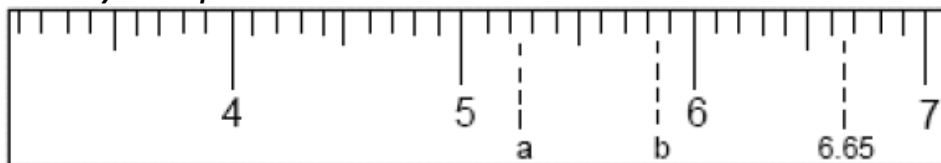

Figure 1. A *portion* of a metric ruler (the centimeter scale has been enlarged for ease in reading)
Distances are normally measured with a ruler. The limit of accuracy of a ruler is indicated by how "precisely" you can read the length on that ruler's scale—that is, how well you can estimate between the marks. On the portion of the ruler shown in Figure 1, the distance between the closest marks is 0.1 cm. The dotted line to the right of the meter stick is at a length of 6.65 cm. The last decimal place, the hundredth's place, in the measurement is **estimated**. Here is the key for determining the precision of most measuring devices:
On the ruler in figure 1, the closest marks are 0.1 cm apart, so you can estimate to the hundredths place, 0.01 cm. However, when looking at a metric ruler in the real world, the smallest marks (i.e. millimeter marks, mm) are so close that it is all we can do just to determine that the dotted line is between two of them—about half way. Therefore, your best estimate of the position of the dotted line is 6.65 centimeters. We can say that the measuring instrument is readable to ± 0.05 cm. The ± 0.05 cm means that your measurement may be off by as much as 0.05 cm above or below its true value. This value is called the **uncertainty or the precision** of the instrument.
1. What is the smallest scale increment of the ruler shown in fig. 1, above?
2. What distance is represented by dotted line "a" in Figure 1? How much uncertainty is there in this measurement?
3. What distance is represented by dotted line "b" in Figure 1? How much uncertainty is there in this measurement?